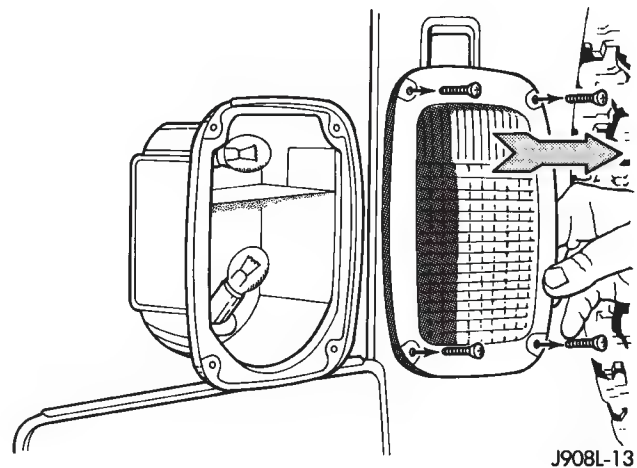

Fig. 15 Back-up/Rear Turn Signal/Tail Lamp Bulb Replacement
- (1) Remove the lens retaining screws from the tail lamp housing (Fig. 15).
- (2) Separate the lens from the tail lamp housing.
- (3) Remove the bulb from the lamp socket.